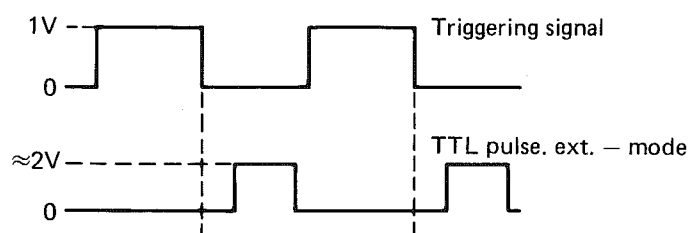

Fig 9.2. External triggering. EXT – mode
6. Check that oscilloscope displays waveform similar to fig 9.2.